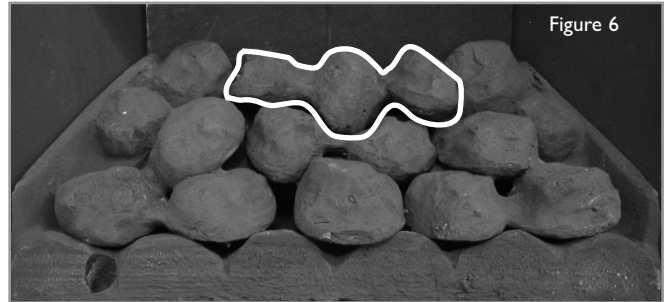

Figure 6
3. Place the moulded coal piece marked on the underside 'B' onto the matrix as shown in figure 6.
5. Place the moulded coal piece marked on the underside 'D' onto the matrix as shown in figure 6.